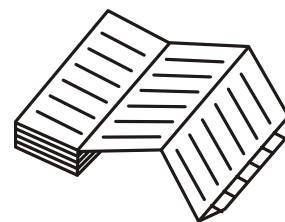

Fig. 3
3. As shown in Fig. 3, insert the recording paper with the "begin" tab placed in the cartridge. Check that the printed side is facing out.